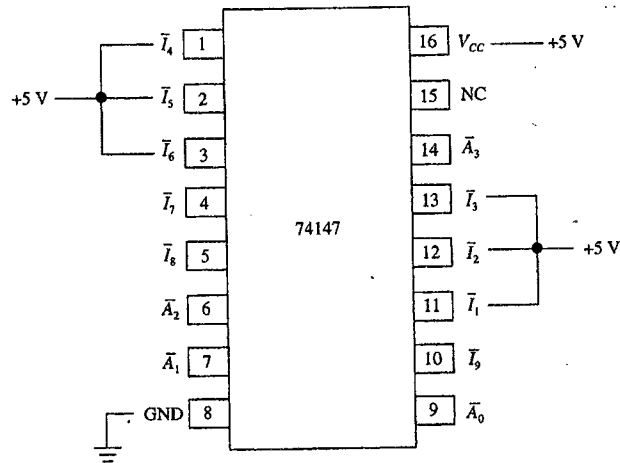
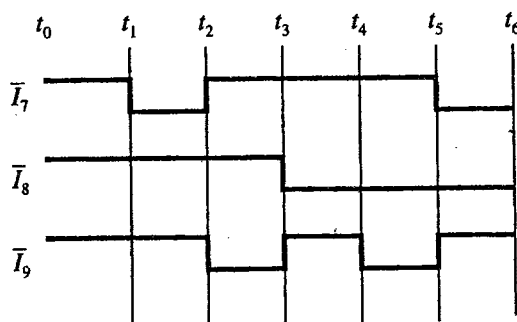

Figure 5a
Figure 5c
- (c) The 74147 shown in Figure 5a is set-up for encoding just three of its inputs (7, 8 and 9). Using the function table from Figure 5b, sketch the outputs at $\bar{A}_0, \bar{A}_1, \bar{A}_2$ and \bar{A}_3 as the $\bar{I}_7, \bar{I}_8,$ and \bar{I}_9 inputs are switching as shown in Figure 5c.